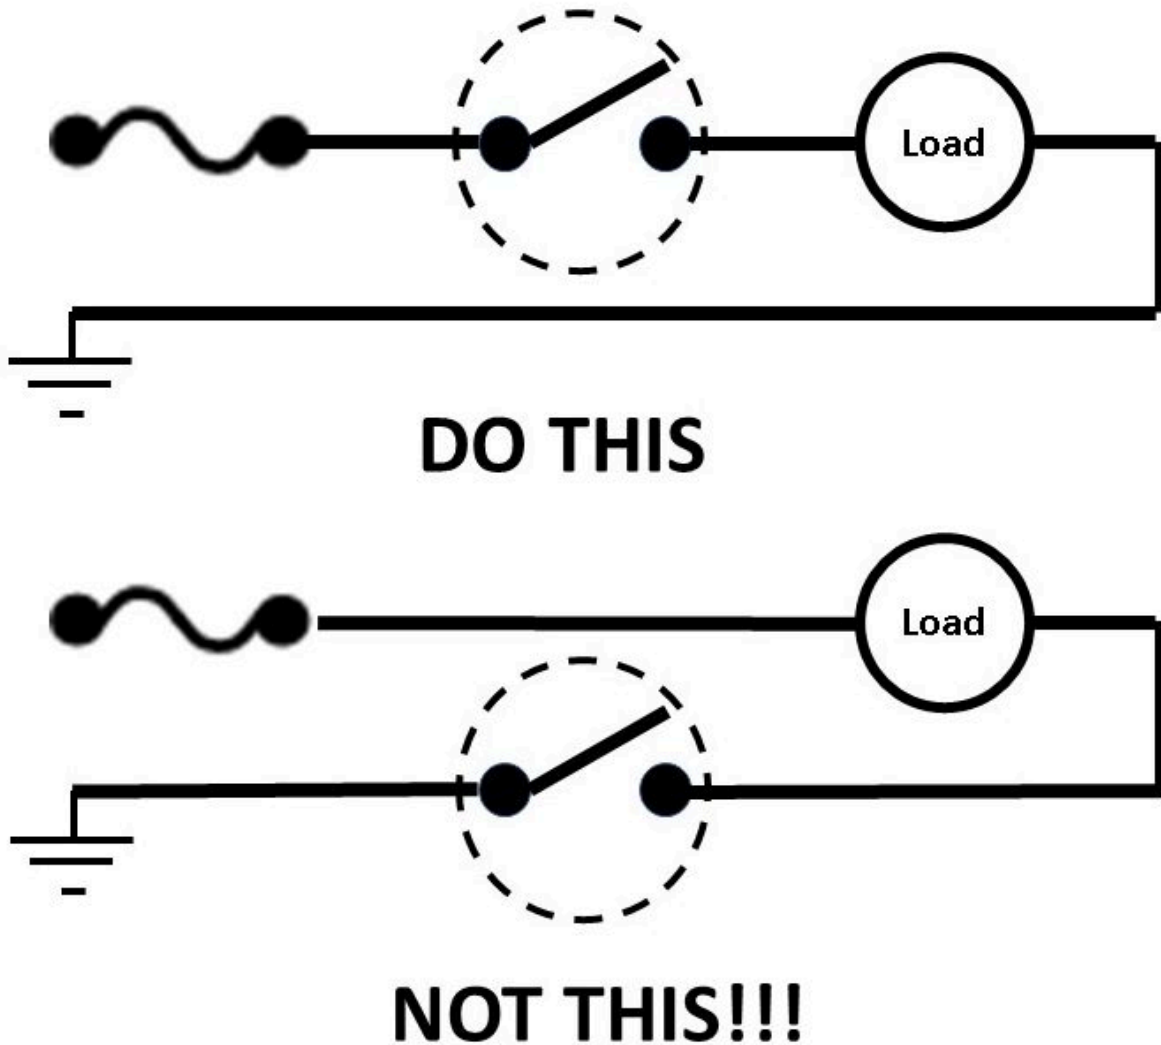

Figure 16 Correct position for a switch in a circuit
- Figure 16 Mixing valve actuator for modulating temperature control © Viega. Used with permission.
- Figure 16 Correct position for a switch in a circuit by ITA is licensed under a CC BY-NC-SA licence.